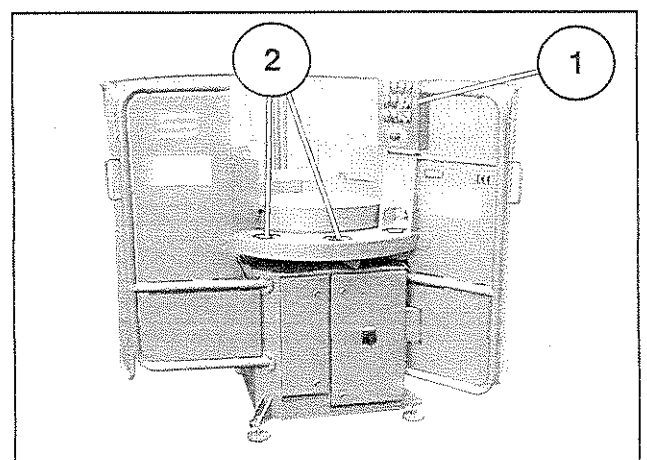

Fig. 7
- Operate the machine (Fig. 7/1),
- Put products into the product holders (Fig.7/1),